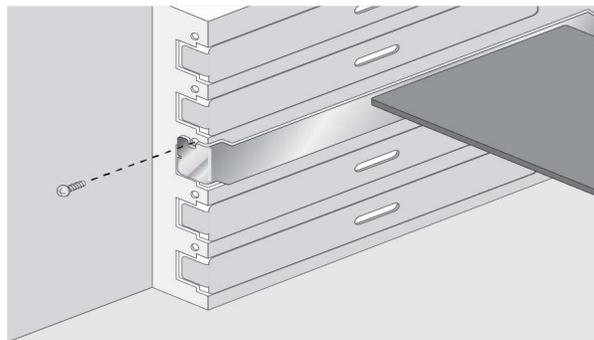

Figure 12. Securing the Network Adapter
7. Secure the network adapter to the chassis with a Phillips-head screw (not provided). Refer to Figure 12.